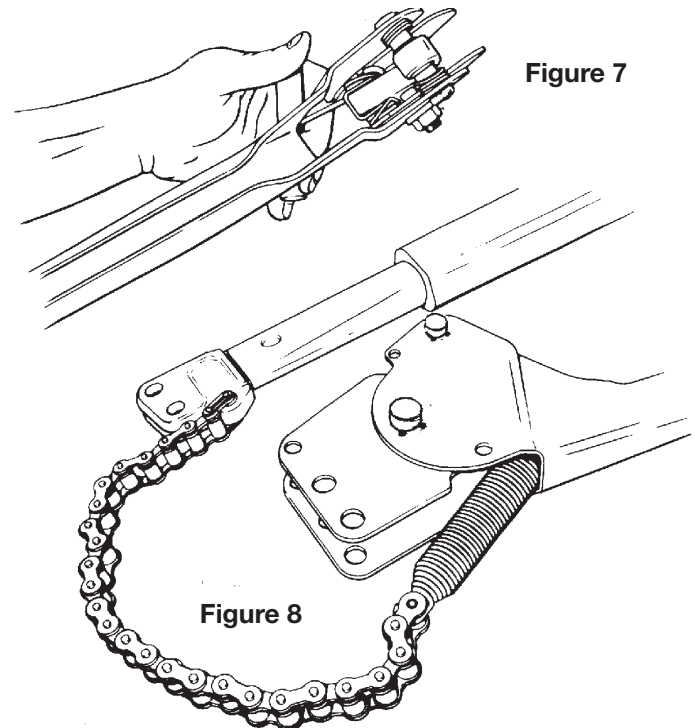

Figure 7
10. Secure sprocket pin with retaining rings (54). (This assembly must be free to pivot freely.)
11. With a small hook tool, reach up from the bottom of the assembly, between the plates and hook the ends of the detent spring into their respective holes (see Figure 7). Check to be sure spring loops are not caught between the pin and the side plate.
12. Remove the 18" pin from under the pawl and engage the drive pawl with sprocket (56).